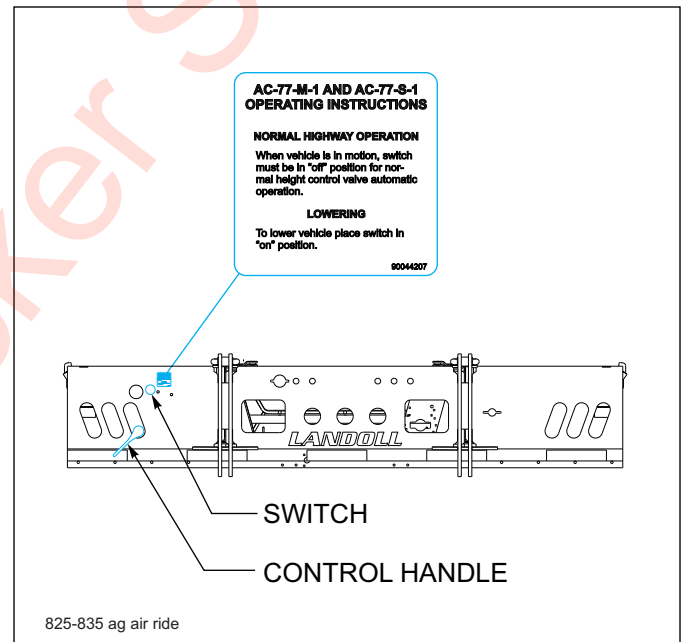

Figure 3-8: Air Ride Switch (825E/835E/845E Ag)
1. Position control handle at normal ride. (See **Figure 3-8.**) Loaded trailer may be operated 1" above or below normal ride position.